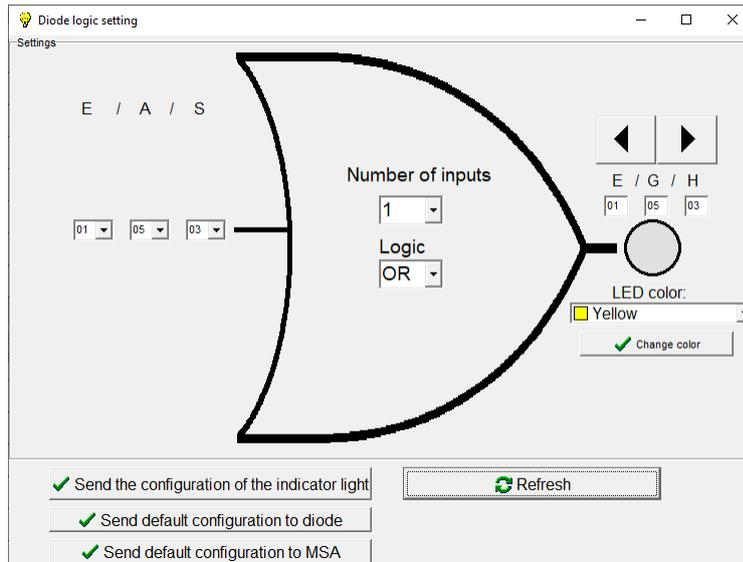

Fig. 5.8 Advanced indicator LED configuration window in the “Plus” version.
The "Plus" software also allows you to assign LEDs to selected inputs; to do this, hover the cursor over the indicator and click it. After selecting this option, a window appears with an 8-input OR gate (logical sum) or an AND gate (logical product) as shown in Fig. 5.8. In the multi-cassette configuration (5 and 6 cassettes), the number of gate inputs is limited to four. In the central section there is a selection field for how many signals should activate the given LED; the maximum number is 8 (4) and the minimum is 1. After selecting the number of signals, a corresponding number of selection boxes appears on the left-hand side of the gate, by means of which the appropriate input can be assigned. The identification of the E/A/S input and the identification of the E/G/H LED are explained in detail in Chapter 6. At the bottom of the window, there are appropriate buttons for submitting the configuration or refreshing it. Above the E/G/H LED code, there are buttons that allow you to navigate to neighbouring indicator LEDs. The "Domyślna konfiguracja diody sygnalizacyjnej" (Default indicator LED configuration) option assigns the same input number as the LED number, e.g. input E01/A01/S08 to LED E01/G01/H08. Additionally, you have the option to change the colour of a single LED using the "Zmień kolor" (Change colour) button.